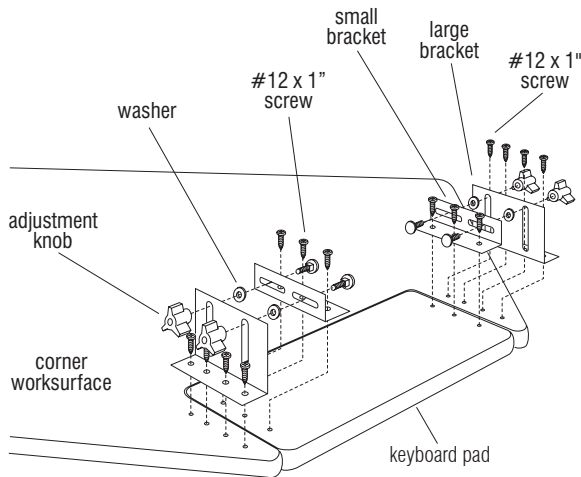

Figure 2
- A. Attach two small brackets to the keyboard pad by first aligning holes in the keyboard pad. Insert six #12 x 1" screws, three per small bracket, but do not tighten completely (Figure 2).